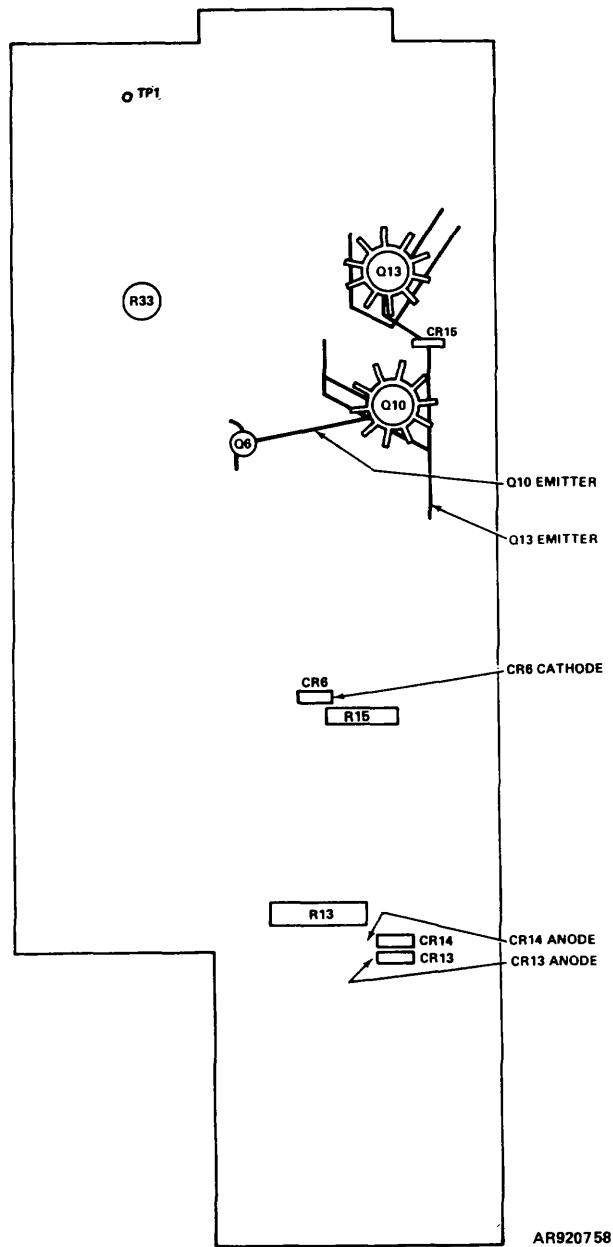

Figure 2. Printed circuit assembly - top view
- (1) Turn LINE switch to OFF and remove dc voltage standard.
- (2) Remove top right cover, slide preamplifier out of chassis, remove its cover and reinsert it into the chassis.
- (3) Connect cable assembly (B2) from the digital voltmeter (A2) to TP1 on the preamplifier (see fig. 2).
- (4) Set LINE switch to ON and INPUT switch to ZERO.
- (5) Adjust PREAMP BAL resistor (R13) (see fig. 2) for zero volt at TP1.
- (1) Use cable (B3) to connect dc voltage standard (A1) to the channel preamplifier input.
- (2) Connect preamplifier output, CHANNEL OUT 1 (rear panel terminal block) to digital voltmeter (A2) using cable (B2).
- (3) Set dc voltage standard (A1) for a zero-volt output on its one-volt range.
- (4) Set the preamplifier sensitivity range to 1 mV/DIV.
- (5) Set the INPUT lever switch to OPR.
- (6) Observe and record the indicated output of the preamplifier at digital voltmeter (A2).
- (7) Set dc voltage standard (A1) for a 50 millivolt output.
- (8) If there is not a 5 volt difference from the previous value recorded in step (6), perform adjustments in b. below.
b. Adjustments. Set CAL resistor R33 (see fig. 2) for a 5 volt difference from the previous value recorded in step (6) above (R).
cable assembly (B2) to digital voltmeter (A2) so as to observe the voltage listed in table 4 (see fig. 2).